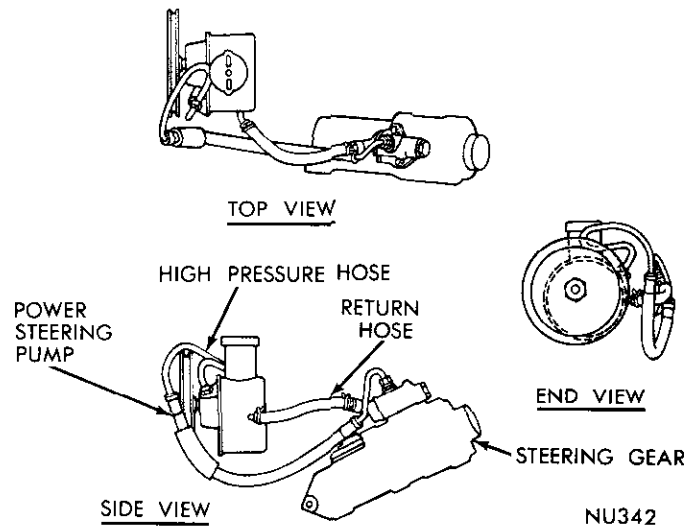

Fig. 4—Hose Routing—1.06 Pump 8 Cylinder Engines
- (1) Route hoses in same position they were in before removal.
- (2) Route hoses smoothly, avoiding sharp bends and kinking.
- (3) When properly installed, the pressure hose tube ends should rest against the outside of the pump reservoir neck on one end, and the outside of the gear valve body on the other end (Fig. 4 and 5).
- (4) Tighten pump end hose fitting to 24 foot-pounds and gear end fitting to 160 inch-pounds.
- (5) Hoses must remain at least one inch away from all pulleys, battery case and brake lines, and two inches away from exhaust manifold.
- (6) When used, protective sponge sleeves must be properly positioned to prevent hose contact with other components in engine compartment.
- (7) After hoses are installed, check for leaks while system is being bled. See "Pump Installation".